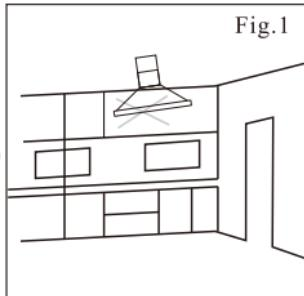

Fig.1
1. Do not install the range hood where there are many doors or windows in order to avoid effecting the exhaust efficiency of the hood that caused by air convection. (fig.1)